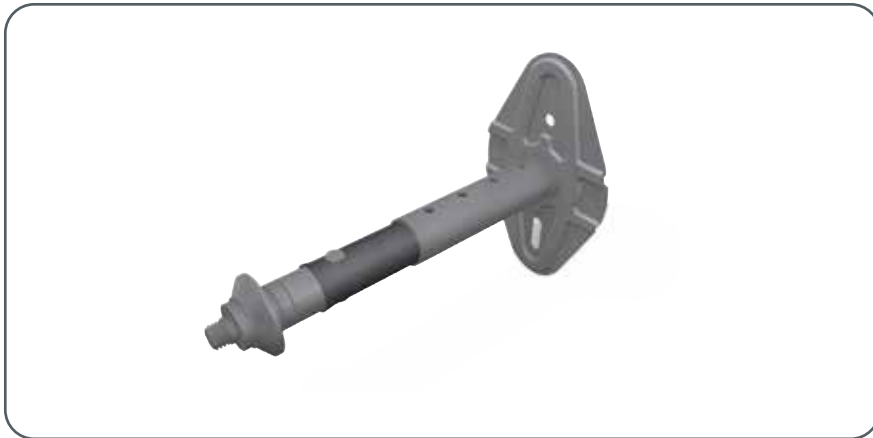

Fig. 5 • PREFA pipe bracket supports for ETICS
- Seal the gutter joint using a PREFA special adhesive set. The box gutter is then twist into one another with an 80 mm overlap (Fig. 5) and the rear cover is closed again (Fig. 6).
- Position the gutter bead and secure it with a rivet (Fig. 5).
- Twist the on-roof gutter together (overlap ~ 8 cm) (Fig. 5).
- Place the expansion joint in the prepared area and fasten it to the gutter bead and in the centre of the support surface (in the direction of the rafters) with a rivet (Fig. 5).
- Mount the pipe bracket support with the supplied screws (Torx TX 25) (Fig. 5).
- Screw the pipe bracket mandrel into the pipe bracket dowel (with Torx TX 25 or SW13) (Fig. 5).